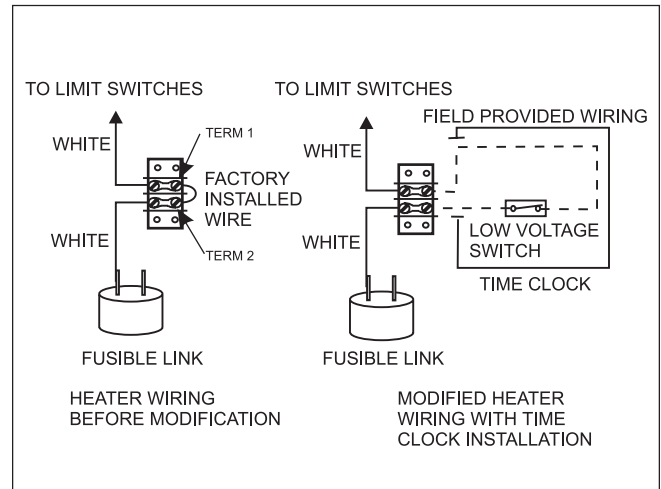

Figure 16. Time Clock Wiring.
To install a time clock auxiliary switch into the heater wires (see Figure 16):
2. Remove the factory installed wire between terminals 1 and 2 on the terminal strip (see Figure 16).